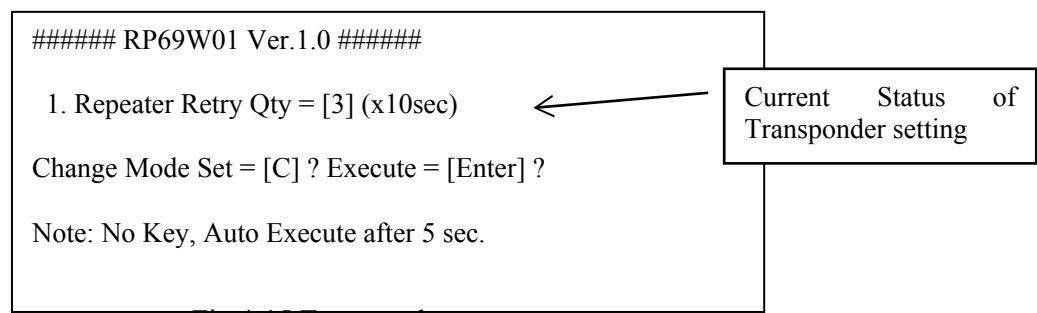

Fig.4-15 Transponder set-up screen
- When TRANSPOUNDER turned ON, the following screen (Fig.4-15) is displayed.